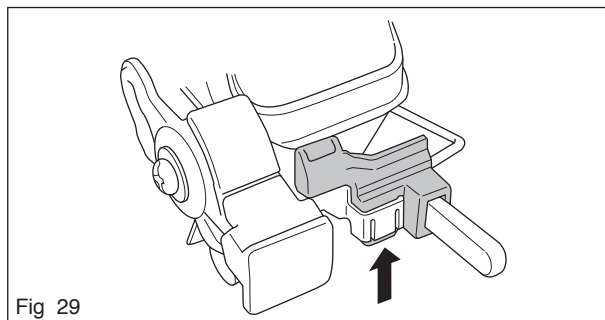

Fig 29
2. Disassemble the handle holder (see figure 29).